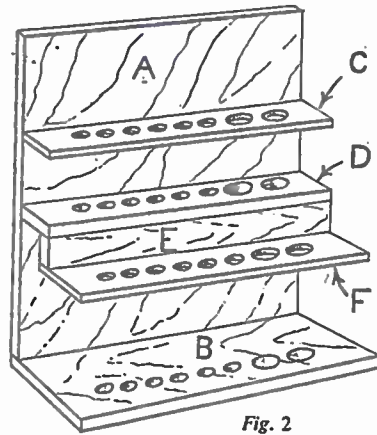

Fig. 2
owing to its higher resistance to water. Fig. 2 shows the general construction. The back (A) is cut from $\frac{1}{2}$ in. wood, 13 ins. by 11 $\frac{1}{2}$ ins. Also cut from $\frac{1}{2}$ in. wood are (B) 4 ins. by 11 $\frac{1}{2}$ ins.; (E) 2 ins. by 11 $\frac{1}{2}$ ins.; (D) 1 $\frac{1}{2}$ ins. by 11 $\frac{1}{2}$ ins. Wood $\frac{1}{2}$ in. thick is needed for (C) 1 $\frac{1}{2}$ ins. by 11 $\frac{1}{2}$ ins.; and (F) 2 ins. by 11 $\frac{1}{2}$ ins.